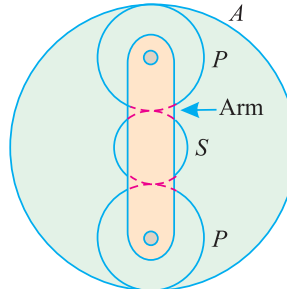

Fig. 34.15.
**Example 34.8.** An epicyclic gear train as shown in Fig. 34.15, has a sun wheel *S* of 30 teeth and two planet wheels *P*, *P* of 50 teeth. The planet wheels mesh with the internal teeth of a fixed annulus *A*. The driving shaft carrying the sun wheel, transmits 4 kW at 300 r.p.m. The driven shaft is connected to an arm, which carries the planet wheels.
Let  $d_A$ ,  $d_P$  and  $d_S$  be the pitch circle diameters of the wheels A, P and S respectively. From the geometry of Fig. 34.15, we find that
- In an epicyclic gear train (as shown in Fig. 34.15) the arm is fixed to the shaft. The sun wheel S having 100 teeth rotates freely on the shaft and the wheel A with 150 teeth is separately driven. If the arm runs at 200 r.p.m. and the wheel A at 100 r.p.m. in the direction, find